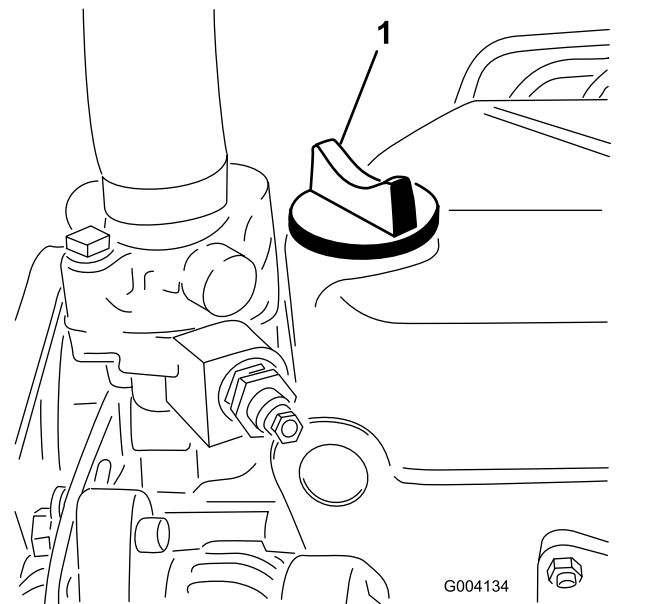

Figure 48
5. If the oil level is below the FULL mark, remove the fill cap (Figure 48) and add oil until level reaches the FULL mark on dipstick.